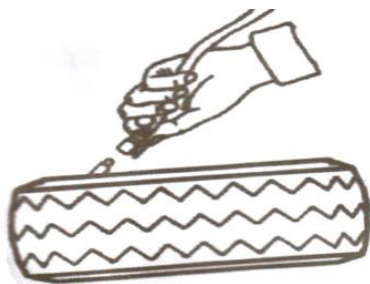

FIG 36
- Connect the inflation hose with the tire air core. (FIG36)